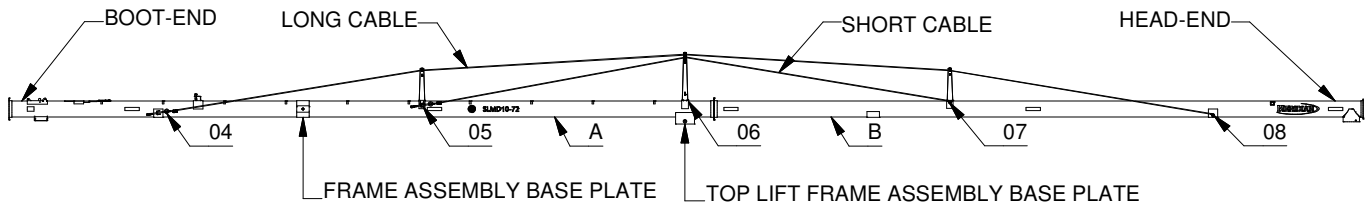
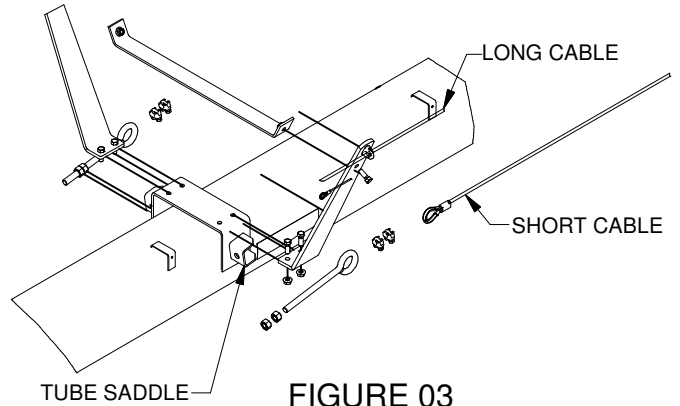
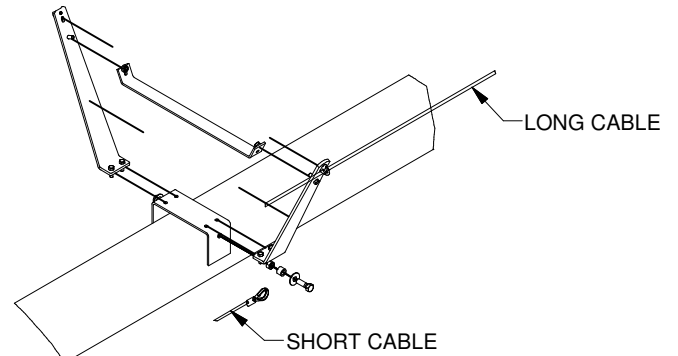
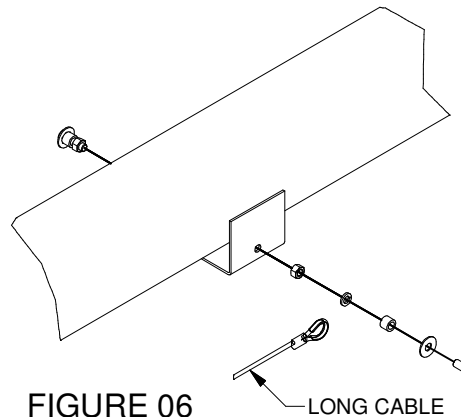

FIGURE 01
FIGURE 03
FIGURE 05
FIGURE 06
1. Connect tube assembly **A** to tube assembly **B** as shown in **(FIGURE 01)**, ensure proper alignment of flight assemblies.
3. Assemble truss risers **(FIGURES 03, 04 & 05)** in the order indicated in **(FIGURE 01)**.
5. Install **SHORT CABLE** spanning from **(FIGURE 03 to 05)**. See **(FIGURE 01)**. Fasten to **(FIGURE 05)** first using 5/8" dia. bolt, flat washer and bushing. Tighten.
7. In **(FIGURE 03)** partially thread one of the two nuts to the eyebolt while attaching eyebolt to the **TUBE SADDLE**.
8. Thread **SHORT CABLE** thru eyebolt and pull tight. Attach two 1/4" cable clamps as shown in **(FIGURE 03)**.
12. Install **LONG CABLE** spanning from **(FIGURE 03 to 06)**. See **(FIGURE 01)**. Fasten to **(FIGURE 06)** first using 5/8" dia. bolt, flat washer and bushing. Tighten.
13. Fasten **LONG CABLE** to top two holes in **(FIGURE 03, 04 & 05)** using 3/8" cable clamp and nuts, leave loose.